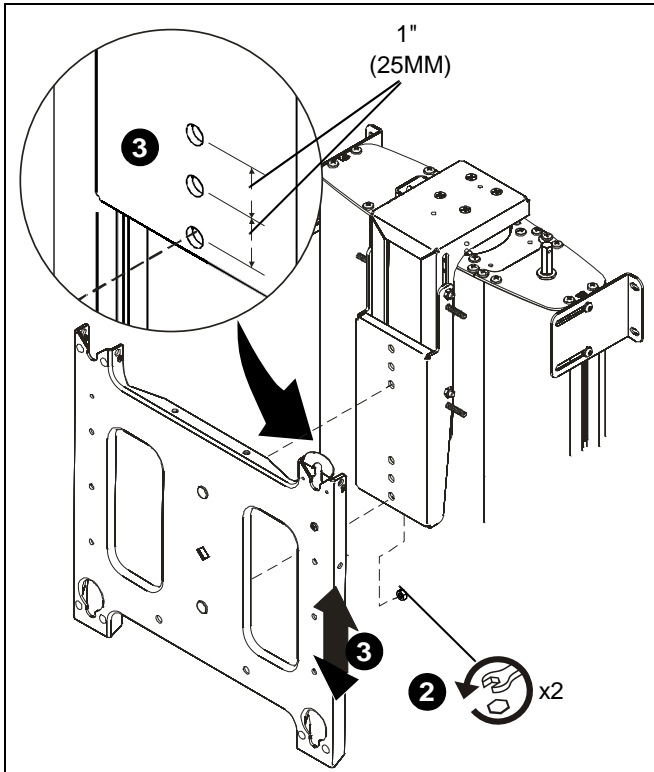

Figure 4
2. Remove two locknuts securing faceplate to faceplate mounting bracket. (See figure 4)
3. Move faceplate up one set of holes to adjust location 1" or two sets of holes to adjust 2". (See figure 4)